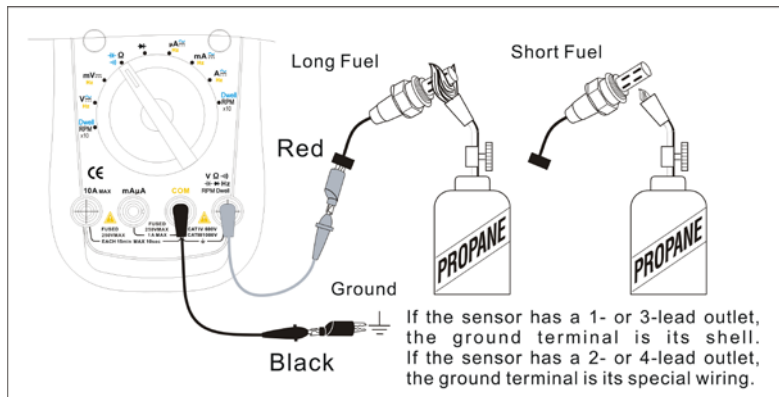

Figure 22
J.Engine Sensor Testing (see figure 22)